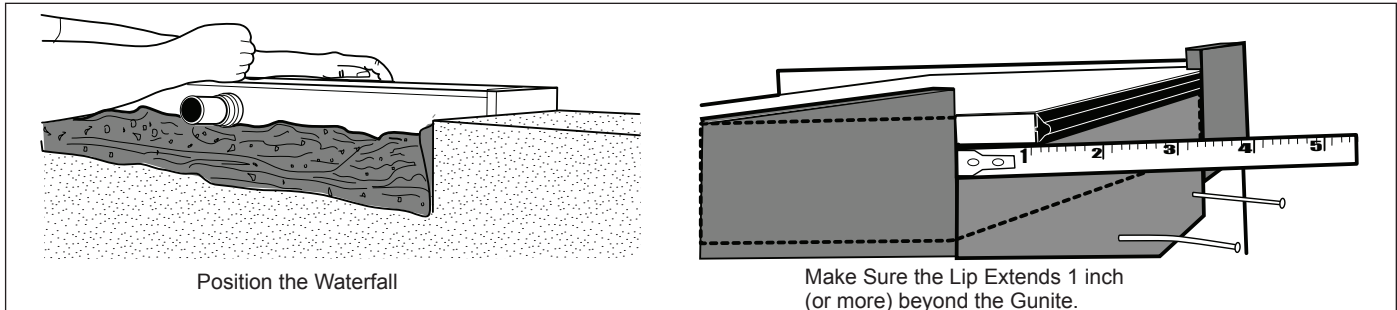

Figure 7. Positioning the Waterfall in Notch
1. Create a bed of cement mortar in the notch to provide a solid base for the waterfall. Refer to Figure 7.